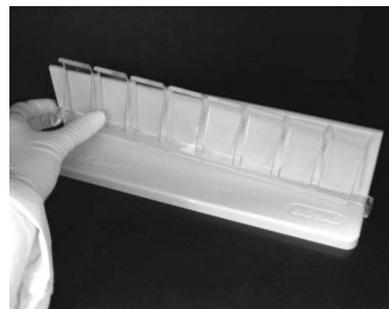

Fig. 2.1a. Hook one side of the clamp in the notch.
3. First, hook one side of the clamp in the notch (Figure 2.1a).